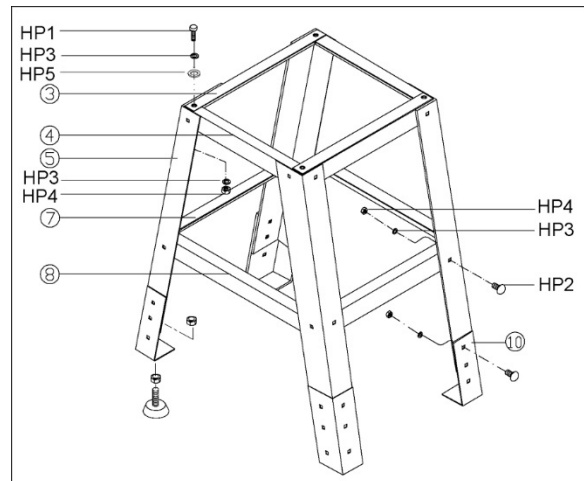

Figure 10: stand assembly (optional accessory)
Refer to Figure 10, or sect. 15.4.1.
1. Assemble stand pieces, referring to Figure 10. (Refer to exploded view, *sect. 15.4.1*, if further clarification is needed.) **Only hand-tighten** all fasteners at this time.
2. The leg extensions (#10, Figure 10) can be adjusted for height.
3. If stand will not be bolted to the floor, install the leveling feet (shown in Figure 8) that were included with the scroll saw, onto the bottoms of the stand leg extensions (Figure 10).